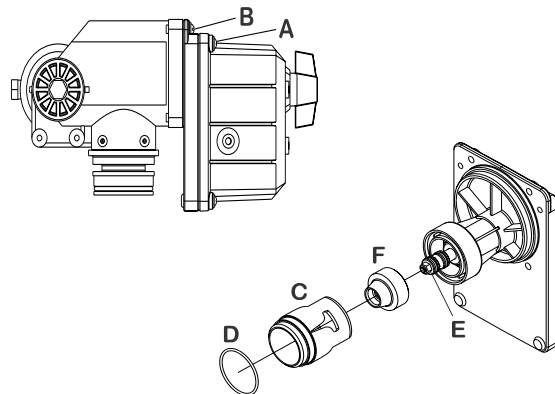

Fig 48
- 1 Remove 4 screws (A Fig 48) and remove housing.
- 2 Remove 4 screws (B).
- 3 Replace cylinder (C) and O-ring (D).
- 4 Loosen Nut (E). Remove and replace Cone (F).